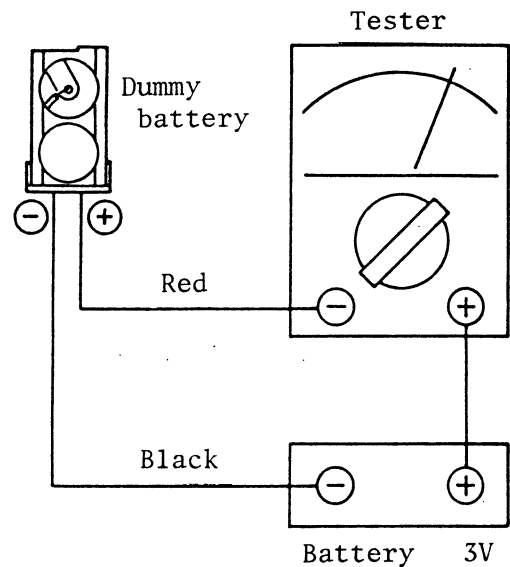

Fig. 37
1. Wire the ZM-3 dummy battery, Tester and 3 Volt Power supply as shown in Fig. 37.